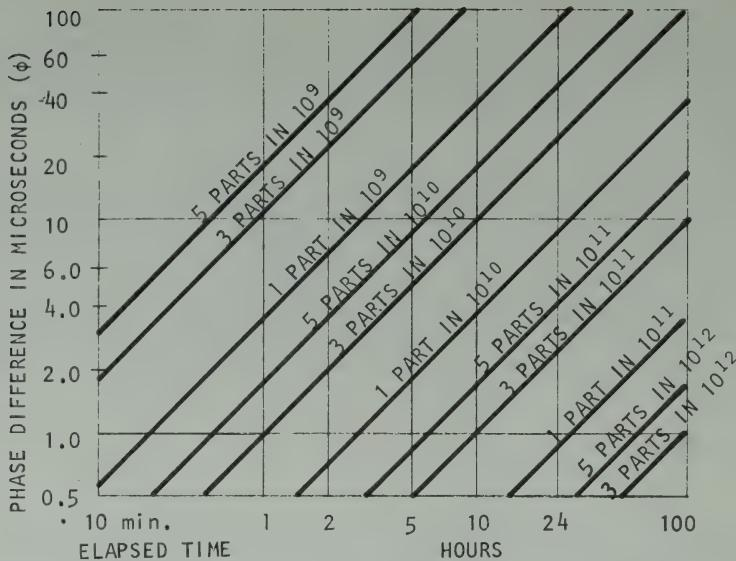

FIGURE 5 PHASE MEASUREMENT RESOLUTION
3-24 The slope of the trace plotted by the Comparator's strip chart recorder is, at a given instant, frequency offset between the local standard and the received signal $d\theta/dt$. The frequency difference can either be determined by the use of the chart in Figure 5 or by simple mathematical calculations.
3-29 Figure 5 shows $E = \emptyset/t$ on a logarithmic scale for \emptyset between .5 μ s and 100 μ s and t between 10 minutes and 100 hours. The fractional frequency difference (E) between the local standard and the received carrier of WWVB is the intersection of \emptyset and t . The dotted line shows the same answer as in the example above.